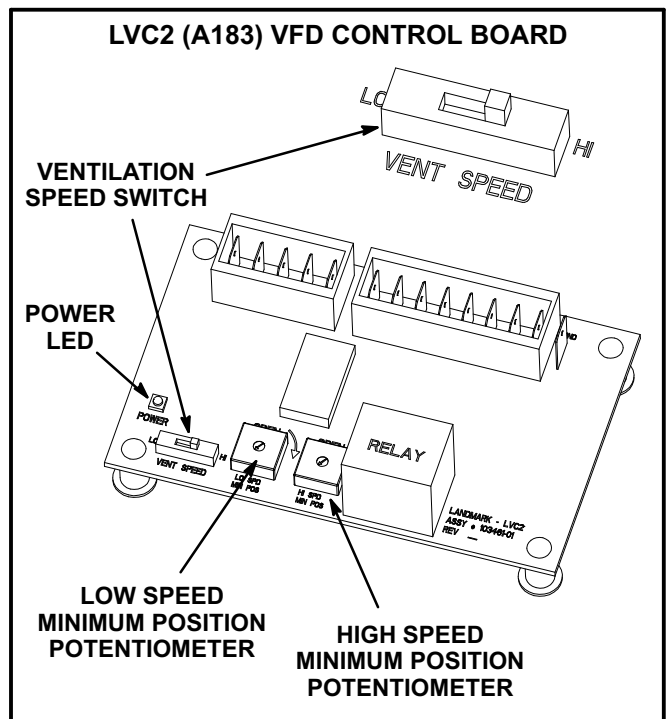

FIGURE 17
To save energy during ventilation, the blower speed can be set to low. This is accomplished by changing the ventilation speed switch on the VFD control board to “LO”. See figure 17.
To maintain required minimum ventilation air volumes when the unit is in the occupied mode, two minimum damper positions must be set. A high and a low speed potentiometer are provided on the VFD control board to adjust minimum damper position. See figure 17.
- 5- Check the power LED on the board. See figure 17.
- 8- When LVC2 24VAC thermostat blower (G) input and 24VDC power are present, check the LVC2 low and high speed outputs. The LVC2 uses inverse logic to enable the blower; 1VDC will be read at the enabled blower speed terminal. See table 10.